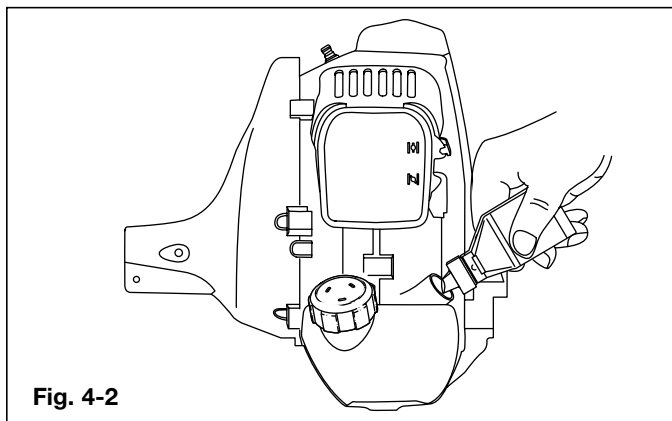

Fig. 4-2
4. Pour the entire bottle of oil into the oil fill hole (Fig. 4-2).